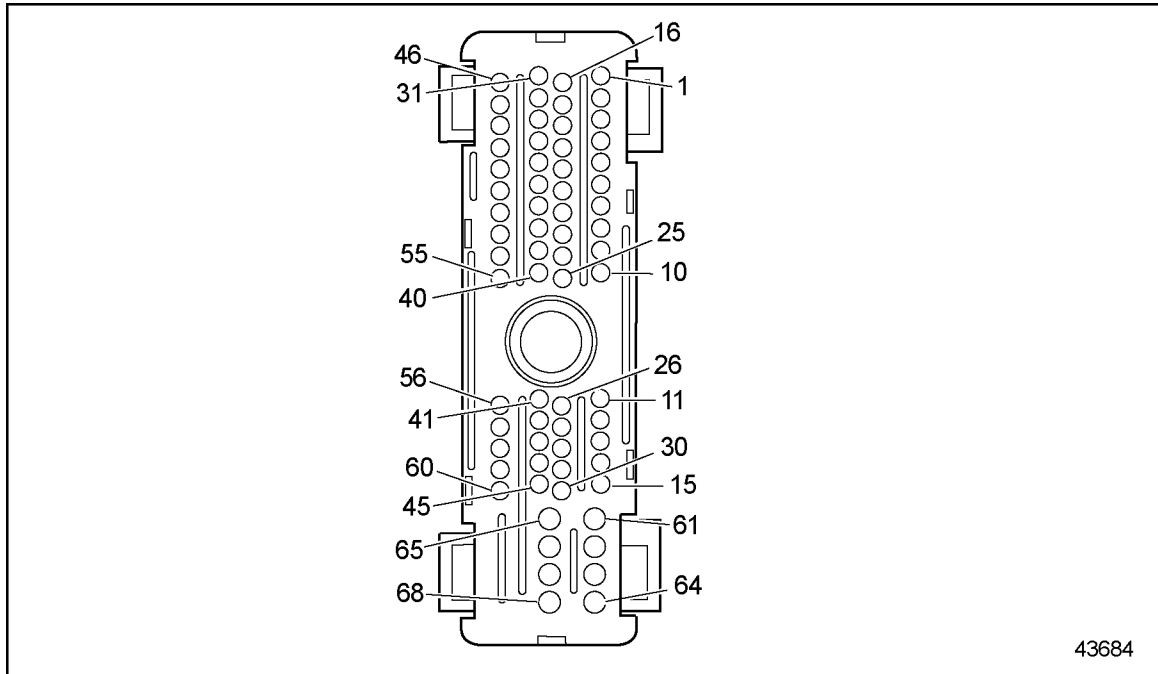

Figure 37-5 ECM/ECU Engine and Vehicle Connector
3. Install a jumper wire between pins 1 and 3 of the TBS/IMP Sensor harness connector. See Figure 37-5.
4. Measure resistance between socket E-12 on the Engine Harness connector and socket V-15 of the Vehicle Interface Harness connector, and between E-12 and V-61 and V-65. See Figure 37-5.